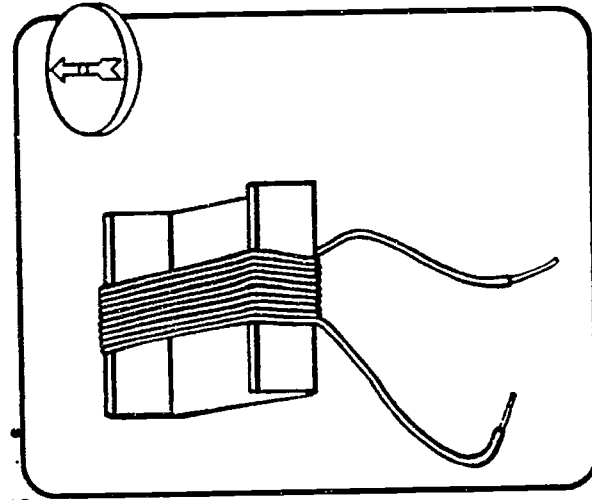

Fig. 13.1 Wrap the wire around the cardboard and remove the insulation from the ends.
- Fold two ends of the cardboard to form supports for the wire, then wrap the wire around the cardboard about 30 times (Figure 13.1). Leave about a foot of